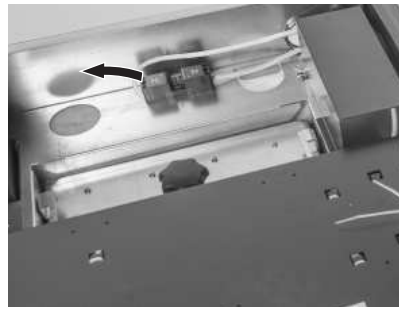

Fig. 53 Disconnect the device power plug
- ▶ Therefore, you must de-energise the boiler (e.g. by unplugging the main power plug) when carrying out cleaning or repair work – Fig. 53.
- ▶ Connect the device power plug – Fig. 53.